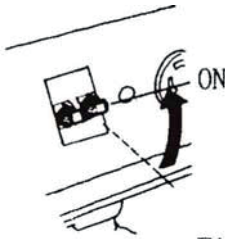

Fig. 32
5.5.3 The generator can supply 110/220V AC, set the voltage selector (if there is such a selector) to the position suitable to equipment (Figure 32). If the generator is not equipped with a voltage selector, there will be sockets of 110V and 220V respectively, please plug the load wire in the relevant sockets suitable for the loads.